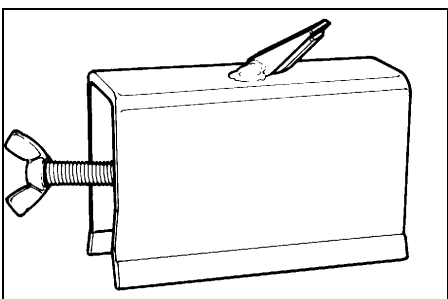

Fig.5
**#4008254 8" adapter (Fig.5)**